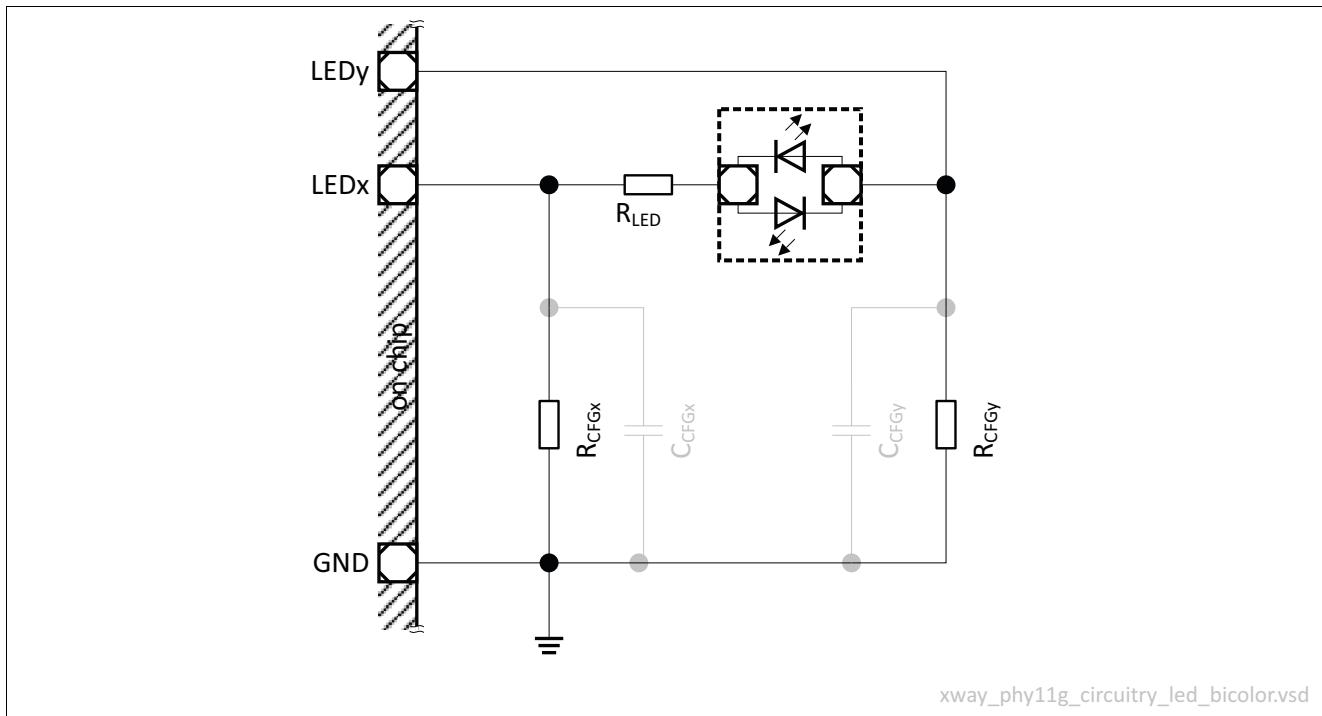

Figure 28 Bi-Color LED External Circuitry
The external circuitry for a bi-color LED is depicted in Figure 28. The LEDx and LEDy pins represent any two of the available LED interface pins at the device. The GND signal represents the common ground EPAD. The LEDx and LEDy pins are designed to source a certain amount of current out of the pad-supply V_{DDP} when becoming active high. Besides the LEDs¹⁾, three individual resistors are depicted in the figure. R_{LED} denotes an optional series resistor which might be used, depending on the selected LED type and PAD supply voltage V_{DDP} . R_{CFGx}/R_{CFGy} and C_{CFGx}/C_{CFGy} denote external passive components required for the soft pin-strapping configuration of the device. The component values are selected such that the brightness of the LED is not affected. More details on this type of pin-strapping configuration can be found in Chapter 3.4.1.
1) Bi-color LEDs are also available as monolithic 2-pin devices as indicated in Figure 28.